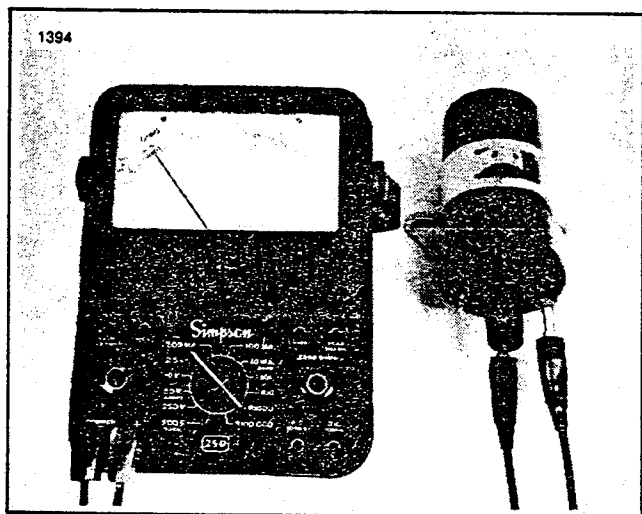

Figure 8-18. Checking Secondary Winding Resistance
4. See Figure 8-18. Check secondary winding resistance. Set ohmmeter to RX100. Reading should be 6000 to 9000 ohms.